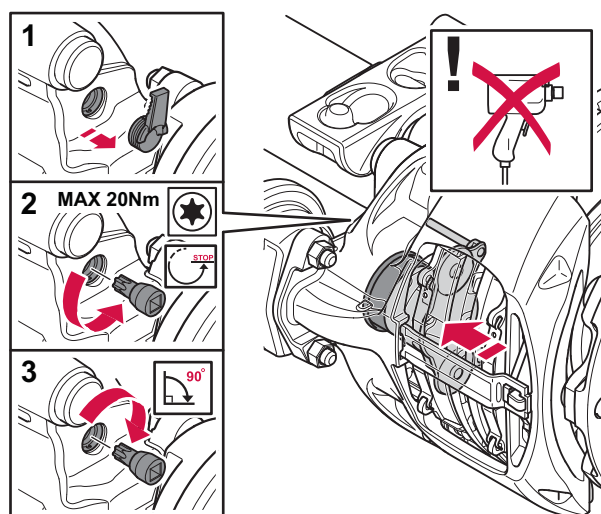

Figure 31. De-adjust the thrust plate via the reset shaft
2. Remove the reset shaft protection plug. See figure 31.